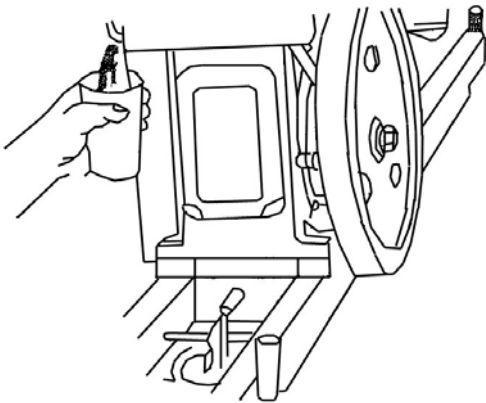

Fig.12 Draining lubrication oil and
1. Drain out the cooling water, Lubricating oil and diesel Fuel (See Fig.12)